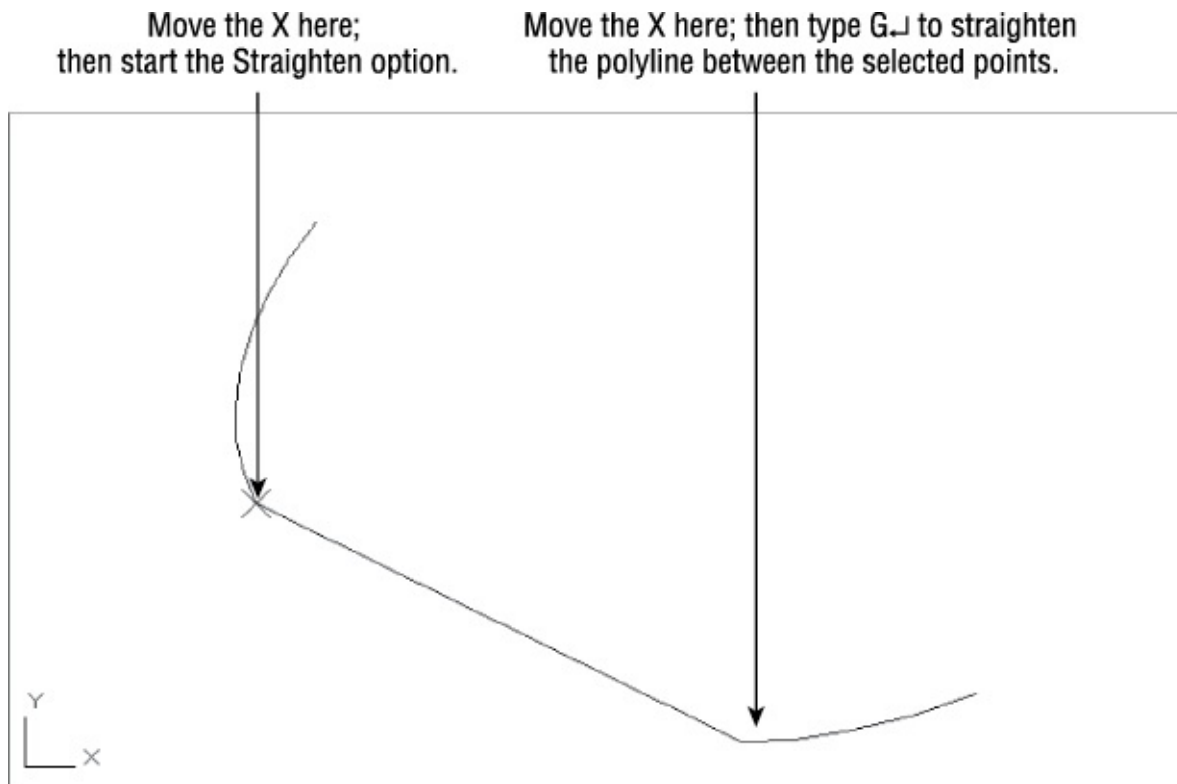

FIGURE 18.14 A polyline after straightening
5. After the X is in the proper position, enter **G↵** for the Go option. The polyline straightens between the two selected vertices (see Figure 18.14).